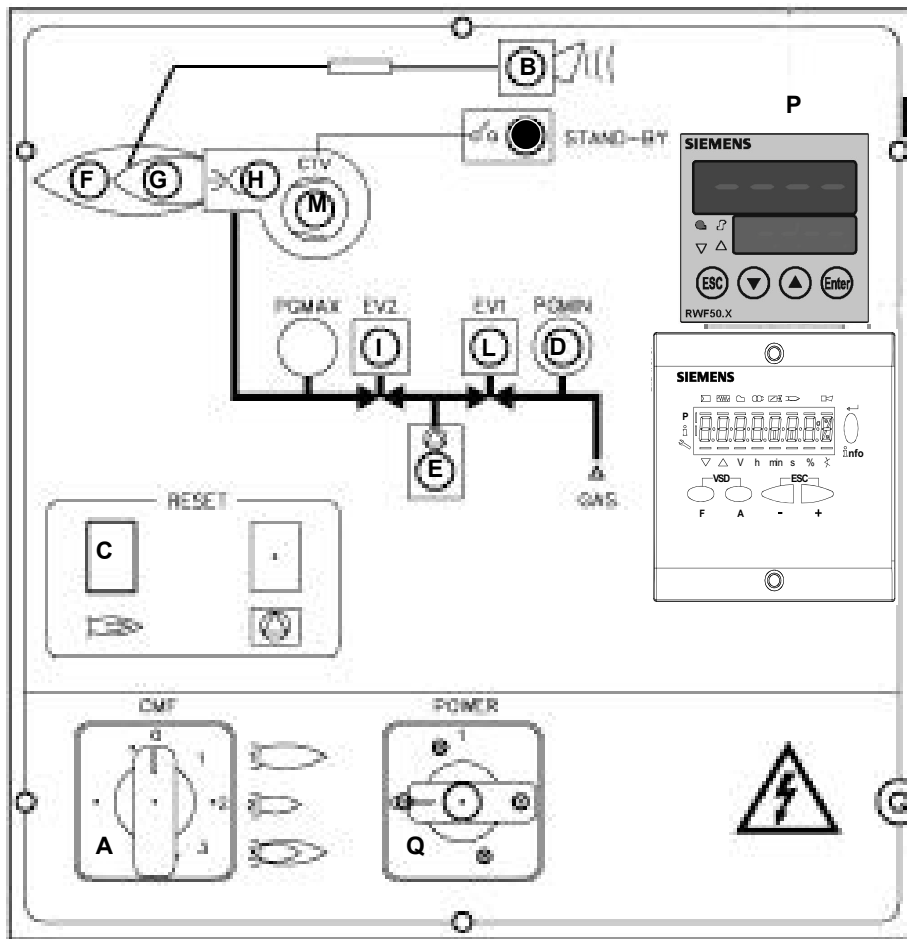

Fig. 3 -
- Change the filter if the pressure difference between pressure connection 1 and 3 (Fig. 1-Fig. 3) is $\Delta p > 10$ mbar.
- Change the filter if the pressure difference between pressure connection 1 and 3 (Fig. 1-Fig. 3) is twice as high compared to the last check.